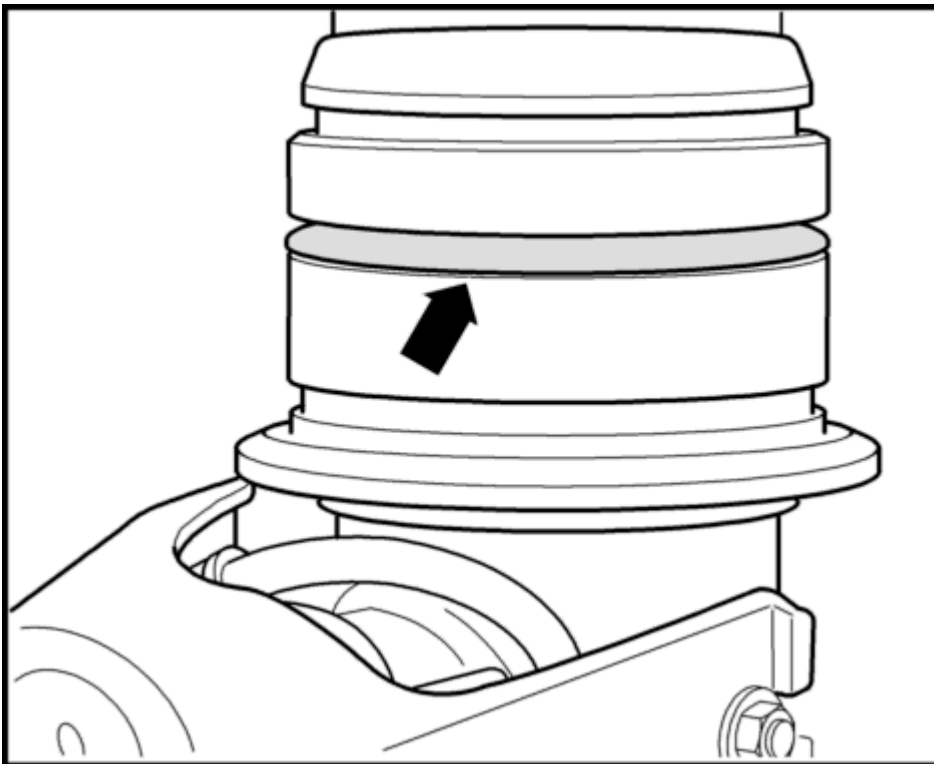

Fig. 27: Shock absorber sealing ring
1. Replace sealing ring on shock absorber -**Arrow**- . See **Fig. 27**.